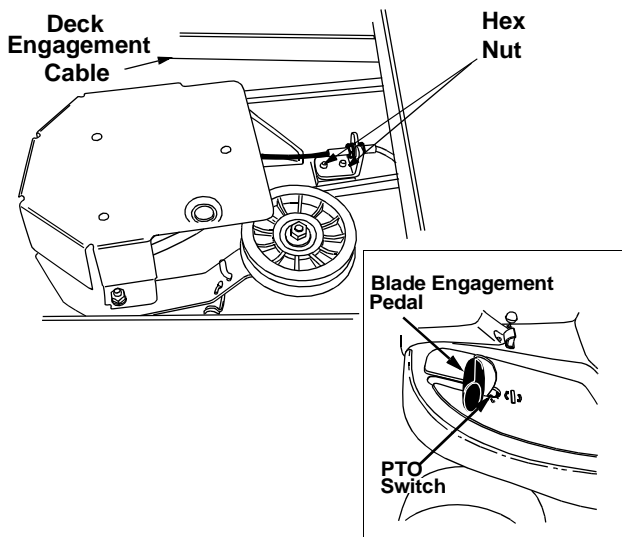

Figure 12
The blade engagement pedal should be adjusted so that if you depress it about 3/4" from the front of the slot, it should start engaging the deck belt. The PTO (power take off) switch is located in the blade brake slot on the left side of the upper frame. See Figure 12. The blade engagement pedal needs to make contact with the PTO switch for the engine to start.
Adjustment to the blade brake will have to be made at the cable end. See Figure 12.
- If the belt is slipping when you depress the blade engagement pedal about 3/4", loosen the two hex nuts on the cable. See Figure 12.
- If the belt is engaging sooner than when the blade engagement pedal is 3/4" from the PTO switch, tighten both hex nuts on the cable. See Figure 12.